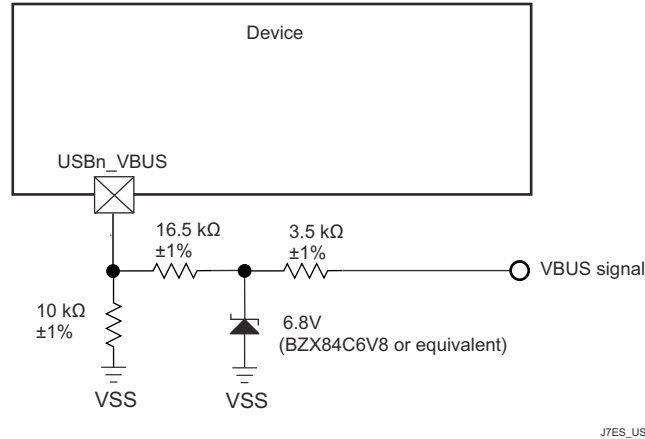

图 8-4. USB VBUS Detect Voltage Divider / Clamp Circuit
The device requires the VBUS signal voltage be scaled down using an external resistor divider (as shown in the 图 8-4), which limits the voltage applied to the actual device pin (USB0\_VBUS). The tolerance of these external resistors should be equal to or less than 1%, and the leakage current of zener diode at 5 V should be less than 100 nA.(1)
The USB0\_VBUS pin can be considered to be fail-safe because the external circuit in 图 8-4 limits the input current to the actual device pin in a case where VBUS is applied while the device is powered off.